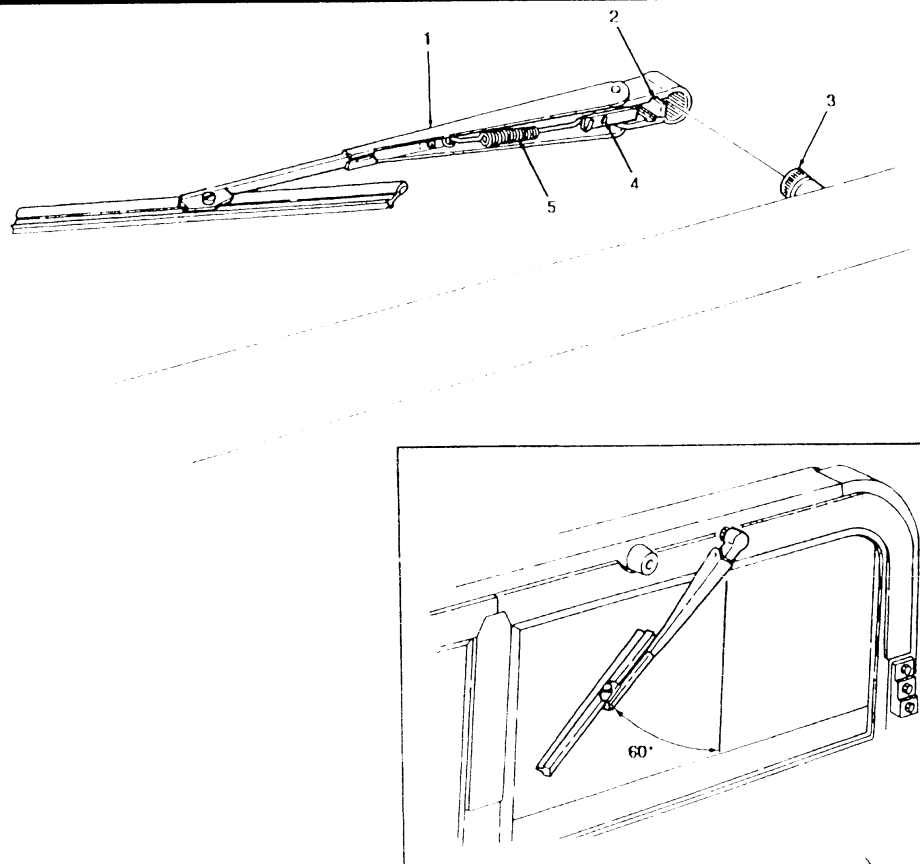

FIGURE 3-17
- (1) Lift wiper arm (1) away from windshield. (see figure 3-17)
- (2) Lift up latch (2) at base of wiper arm (1) and remove wiper arm (1) from splined shaft (3).
- (3) Remove spring (5) from wiper arm (1). Discard spring (5).